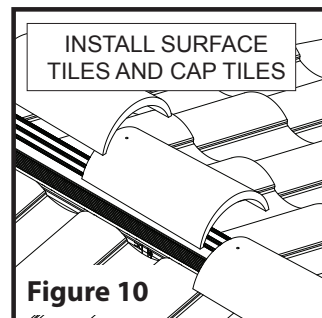

Figure 10
3. Install cap tiles as approved by local code. (See Figure 10, Figure 11 and Below)